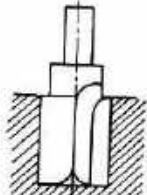

Fig. 724. STRAIGHT OR GROOVE CUTTER
- Fig.724 Straight, or Groove Cutter.